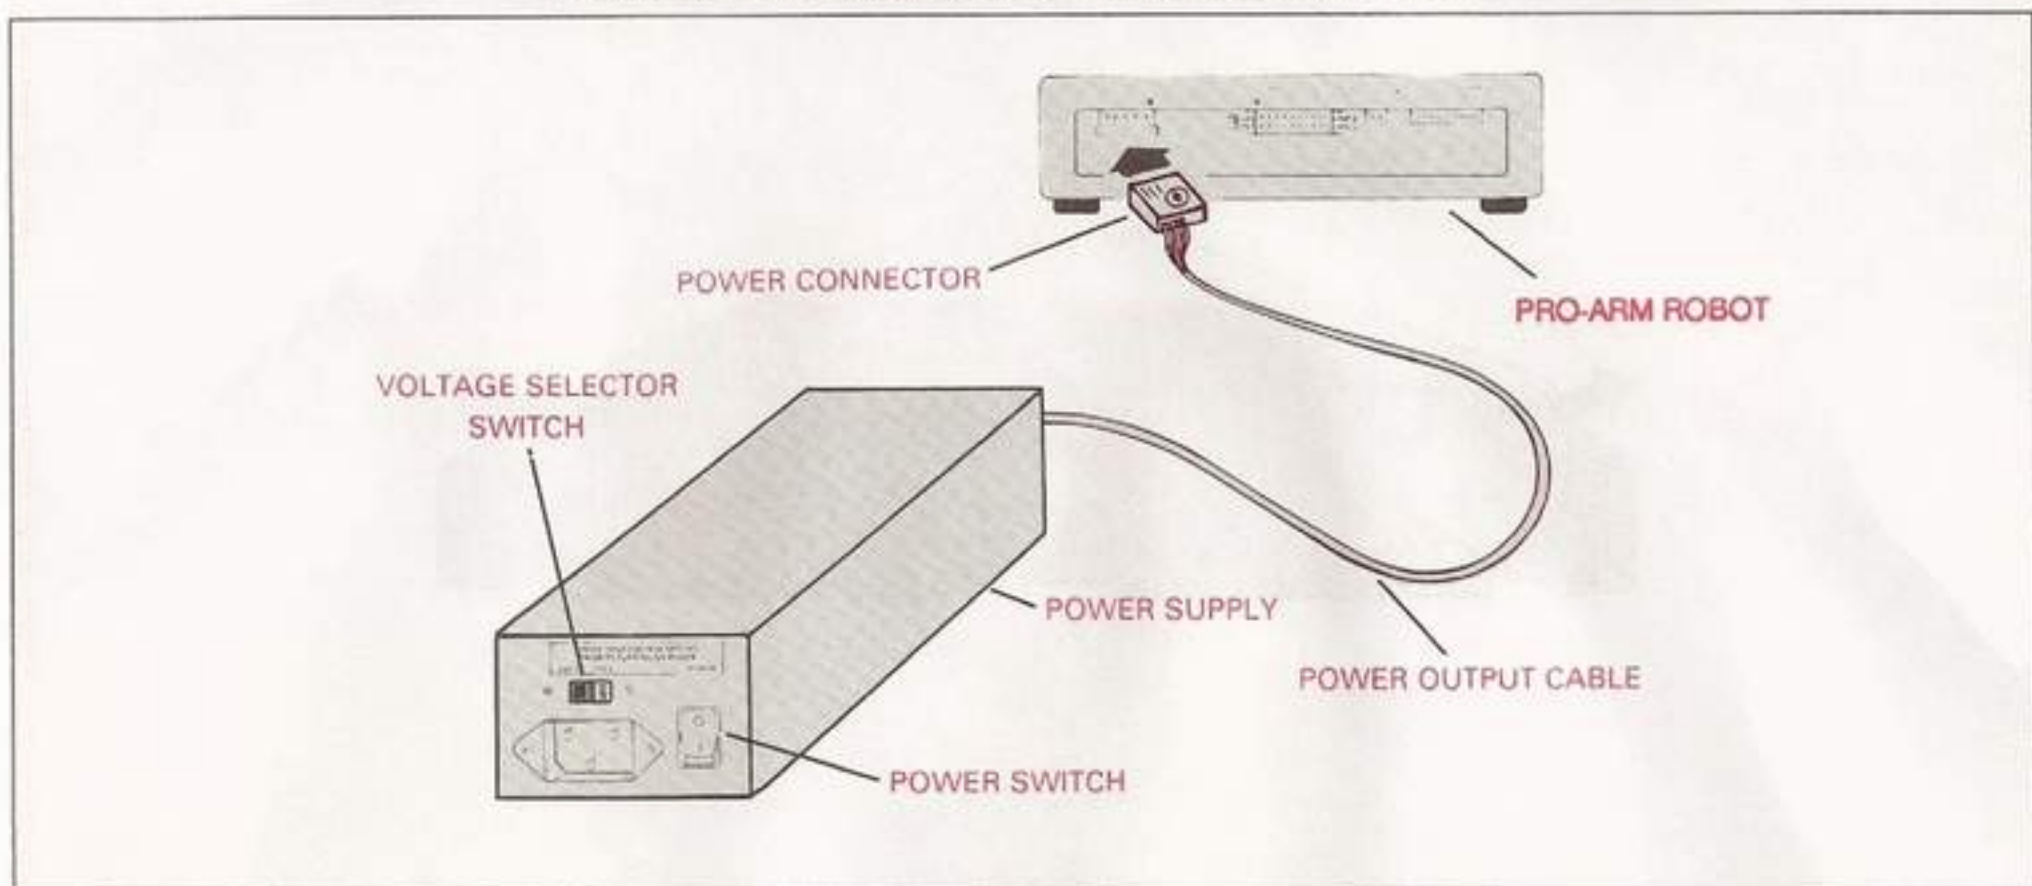

Fig. 6: Connecting the Power Supply Output Cable
Note: A solid-state power supply is included with the Pro-Arm system. (Refer to Fig. 6.) It provides outputs of 5-V dc for the operation of the logic IC circuits of the Pro-Arm and 12-V dc for the operation of the stepper motors.
- f. Plug the Power-Supply Output Cable into the power connector on the rear of the Pro-Arm, matching the arrow marking on the cable with the arrow marking on the robot. Refer to Fig. 6.